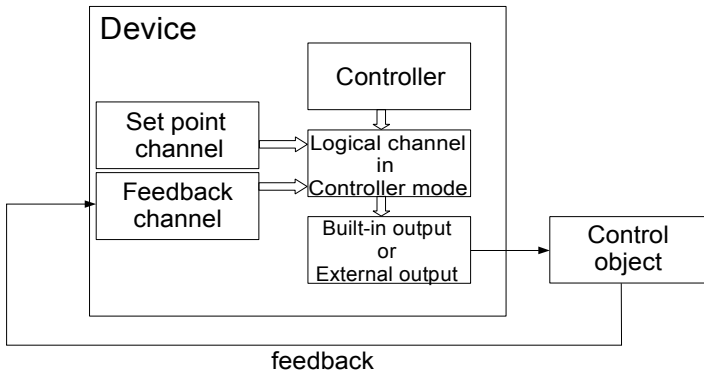
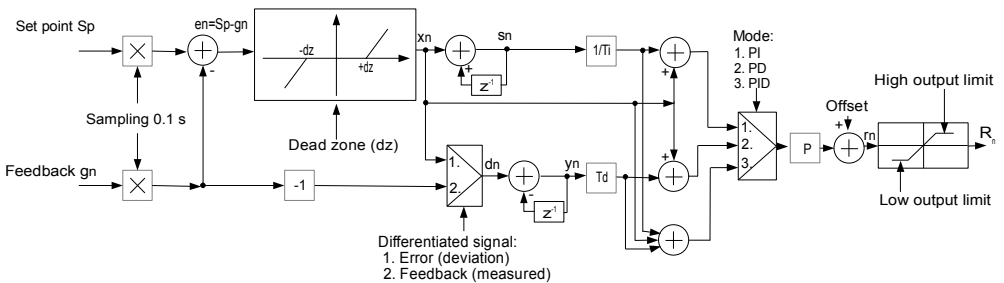
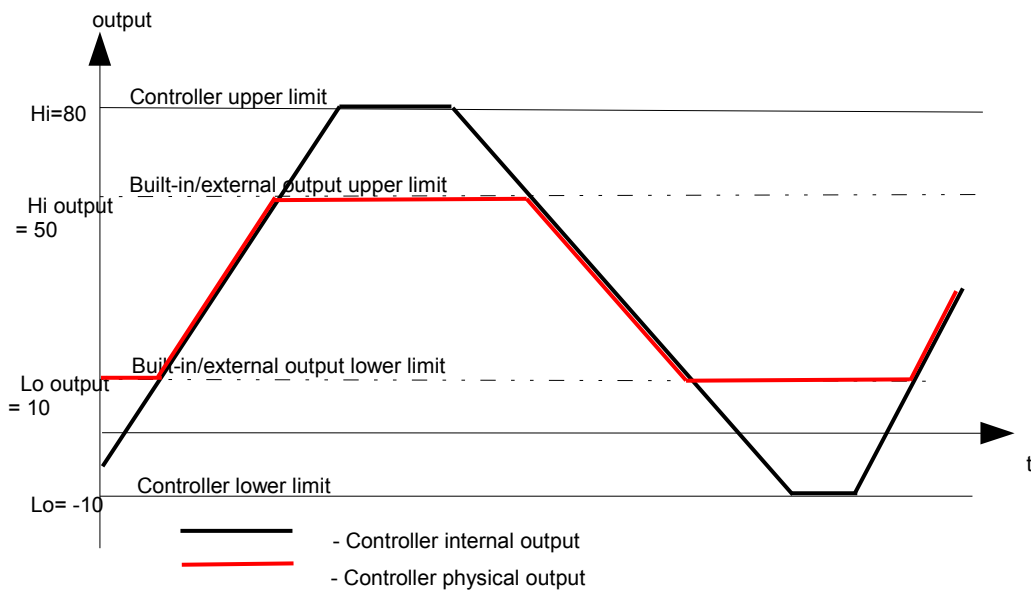

Fig. 7.116. Block diagram of the control loop of the object by MultiCon
Fig. 7.117. Block diagram of the **Controller** implemented in the device
Fig. 7.121. Control loop output limitation
- **Differentiated signal** - this parameter is available for the **PD** and **PID** mode and allows the selection of the option (see **Fig. 7.116** and **Fig. 7.117**):
Note! After offsetting the output signal the output value is limited to the range set in **Low output limit** and **High output limit** parameters (see Fig. 7.117),
Fig. 7.116 shows the block diagram of a control process of an object with the **Controller** implemented in the device. Set the setting of the selected Controller to be connected to the **Logical channel** operating in the **Controller** mode. In this **Logical channel**, select the **Set point channel** and the **Feedback channel**, which store the data required to control the object. Respectively, the **Set point channel** contains a destination value of the process,
In the **Fig. 7.121** an exemplary diagram of the output values of the control loop is presented. The diagram shows the double limitation of the control loop supplied to the object. The first limitation with a black line results from the output parameters of the Controller (logic channel output value in the controller mode, see **Fig. 7.116**), and the second limit marked with a red line results from the parameters built-in/external outputs (value transferred to controlled object, see **Fig. 7.116**).